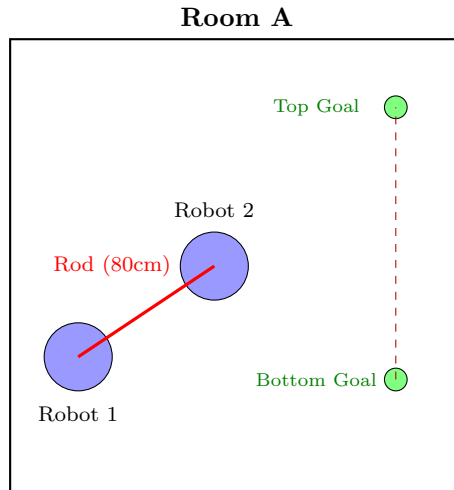

Figure 1: Task1 and Task2 top view. Green circles indicate the target positions for the rod ends.
1. Task 1: Coordination with Fixed Attachment — The robots start with the rod already fixed between them (no pickup required) and must cooperatively move it from a random initial position in Room A to a fixed goal location within the same room (Fig. 1).
2. Task 2: Intra-Room Object Placement — The robots must cooperatively pickup and move the rod from a random starting point in Room A to a fixed goal location within the same room (Fig. 1).